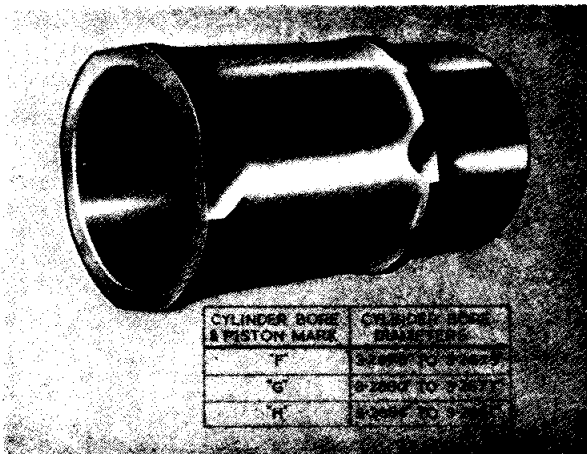

Fig. 3
- (c) **The Cylinder Sleeves** (Fig. 3) are of the wet type, being centrifugally cast in nickel chrome iron and provided with flanged upper faces, having two pairs of flats at 90° to one another.